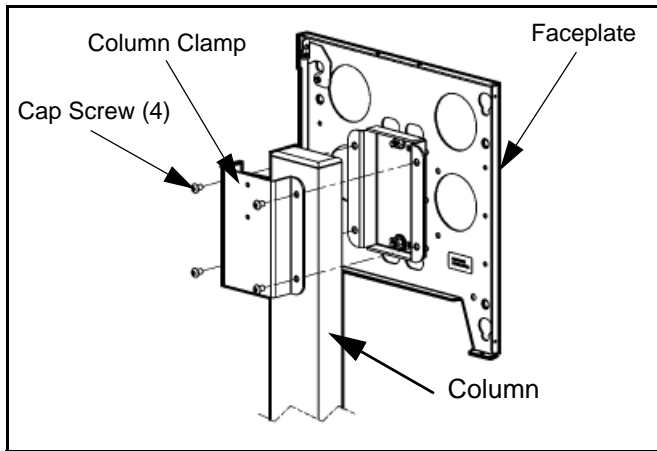

Figure 16: Remove Faceplate
7. Remove four Cap Screws securing Column Clamp to Faceplate and Column. (see Figure 16:)